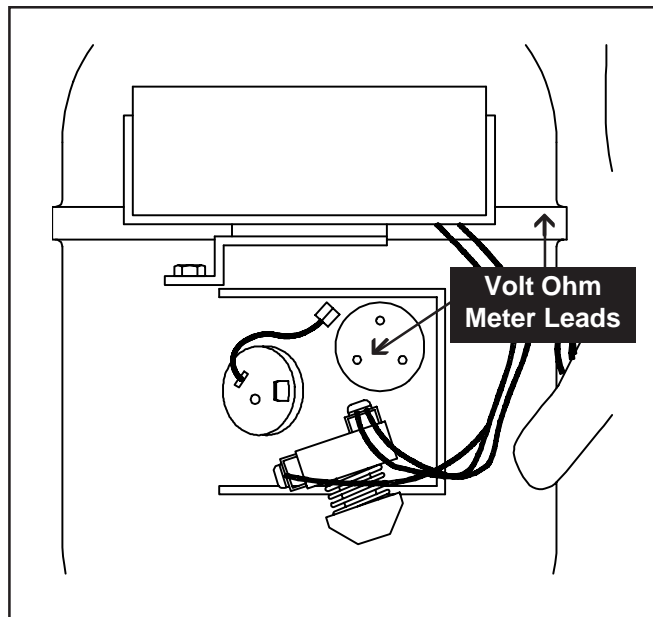

Figure 32. Check Winding to Ground
7. To check if windings are shorted to ground, connect one ohmmeter lead to a bare metal part on the compressor and check terminals C, R, and S. (Fig. 32)